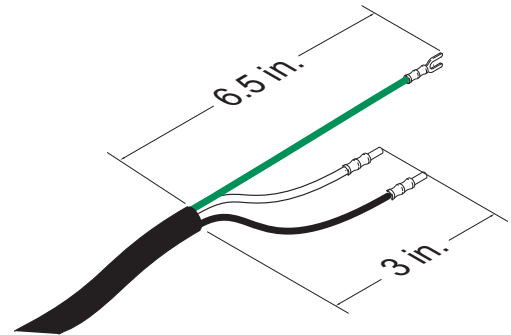

FIG. 8: Power Cord
- Add ferrules as necessary. See Fig. 8.